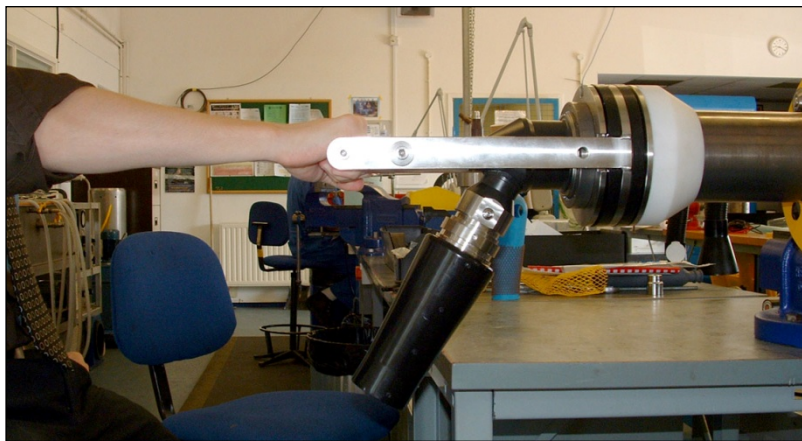

Figure 14 - Mate using ROV Handle
- The operator should now get into a comfortable position, square on, ready to fully mate the connectors. In position, the connector should be at chest height, with grab bars or other provided interfaces on the mounting structure being within easy reach. Whilst using the grab bars or other mechanism to brace himself (i.e. tied to structure), the connector should be mated by holding the ROV handle on the back of the Plug connector (see Figure 14), and use *one smooth single stroke* to push the Plug connector along its axis until it butts up against the Receptacle. A force of 60kgf (588N) will be required to mate the connectors. Ensure the stroke is level, and the operator is able to complete the stroke in one smooth consistent movement. Also ensure that no bounce-back and failure to latch home has occurred. *When mated, under no circumstances should the Plug connector be pulled using the ROV handle to check it is correctly mated; this will de-mate the connector.* [When the plug connector end stops abut to the receptacle this activates a spring loaded latch, which stops the connectors de-mating. Pulling on the ROV Handle will de-activate this latch and hence will de-mate the connector.]
2. By gripping the ROV handle (as shown in Figure 14), the connector should be de-mated from the Receptacle using one smooth pulling movement along the axes of the connectors. A force of 40kgf (392N) will be required to de-mate the connectors.